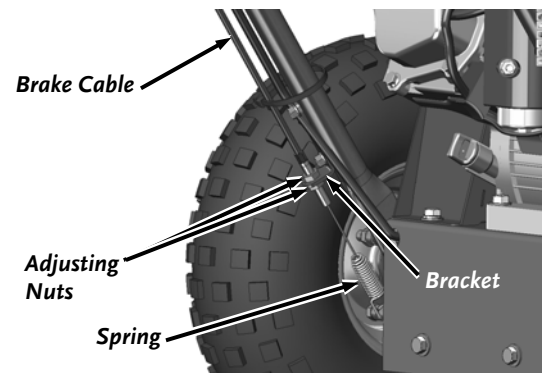

Figure 27
1. Loosen the lower nut a few turns so it moves away from the Bracket (**Figure 27**).
6. As you rotate the Wheel forward (with Wheel Lever unlocked), loosen the upper Nut until the Wheel turns more freely but you still feel a slight resistance at the Wheel (**Figure 27**).